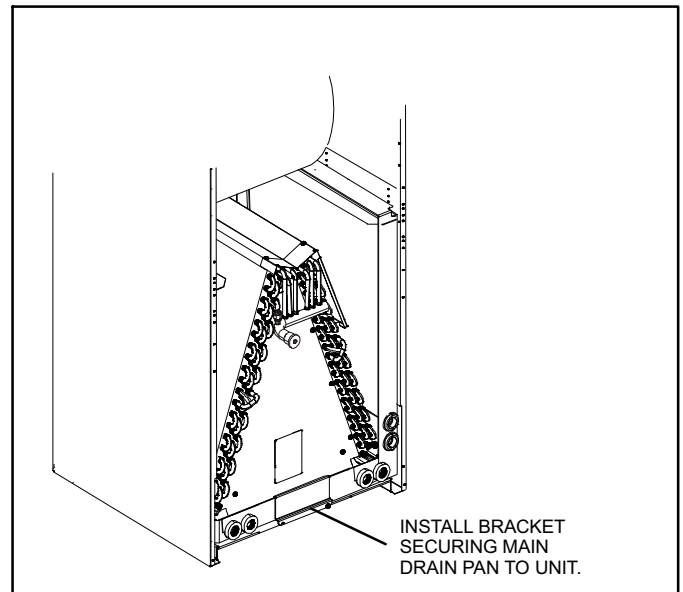

Figure 6. Install Main Drain Pan Mounting Bracket (-018 through -036)
- Re-install modified coil/drain pan assembly in air handler in the same orientation as before (figures 6 and 7).